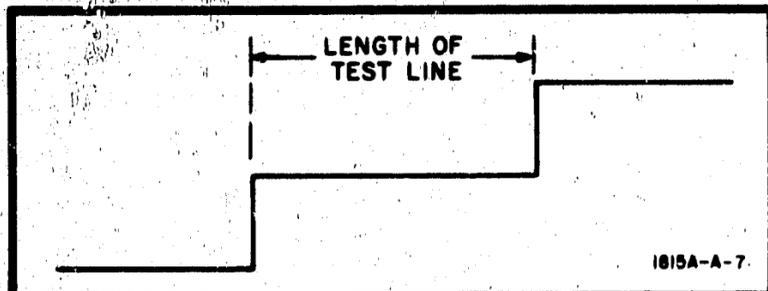

Figure 5-3. Test Line Measurements
k. Adjust the USEC/DIV switch pair so that the length of the line displayed is from 5 to 10 divisions. See Figure 5-3.